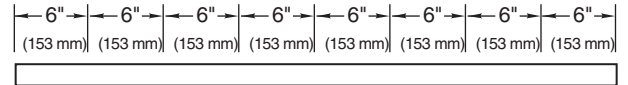

Figure 1
2. See **Figure 1** for mounting of specific track and length.
- 2.1 Drill approximately 0.140" (4 mm) diameter mounting holes in track every 6" (153 mm) (or as required) to prevent track from sagging when heavy fixtures are installed. See **Figure 1**.